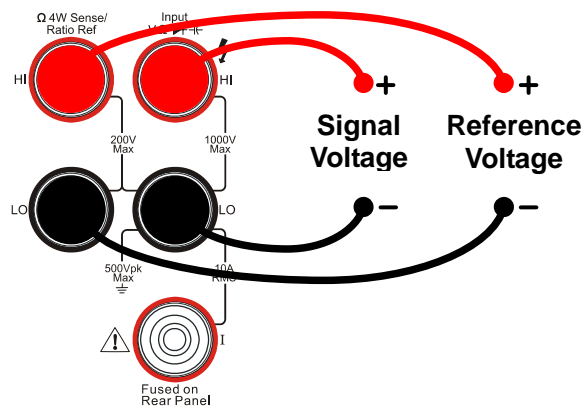

Figure 2-7
1. Connect test leads as Figure 2-7 shown. Red test leads connect the HI Terminal, Black test leads connect the LO Terminal.